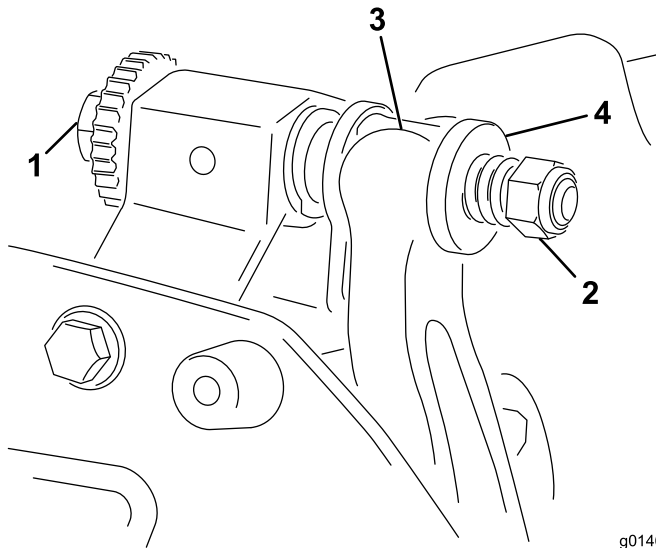

Figure 18
1. Turn the bedbar-adjusting screw, counterclockwise, to back the bedknife away from the reel (Figure 18).
2. Back out the spring-tension nut until the washer is no longer tensioned against the bedbar (Figure 18).